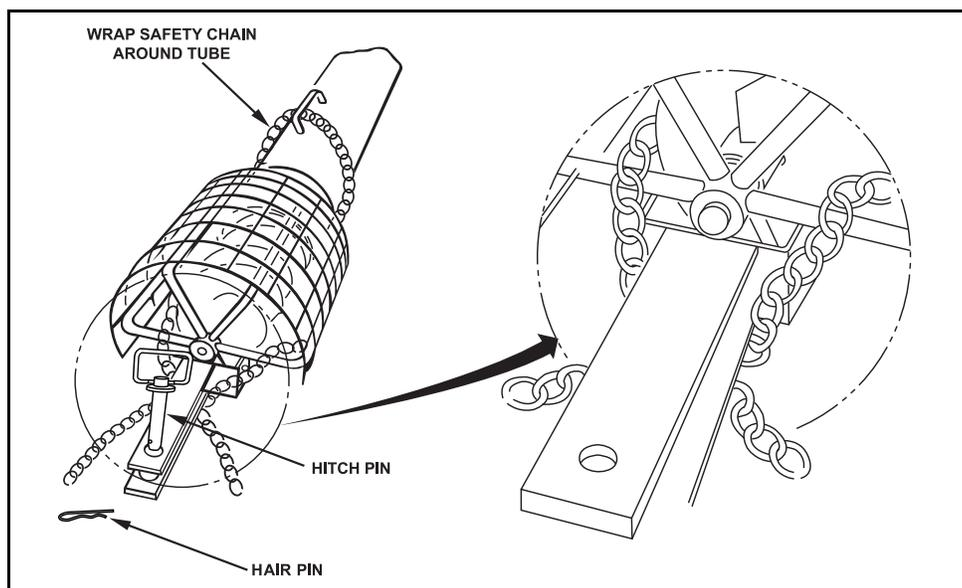

Figure 4.1
2. Place and secure hitch pin and safety chain. The safety chain should be threaded through the handle on the lower tube and wrapped around auger tube and form a cradle that will prevent the auger from digging into the road surface or upsetting (should a breakaway occur) before attaching to the towing vehicle (Figure 4.1).
Important: Use a type of hitch pin (see Figure 4.1) that will not allow auger to separate from towing vehicle.